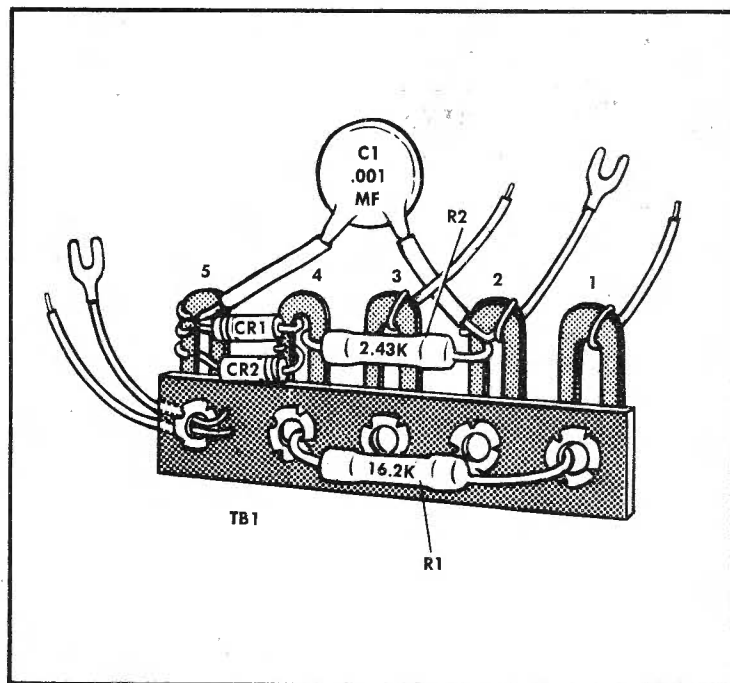
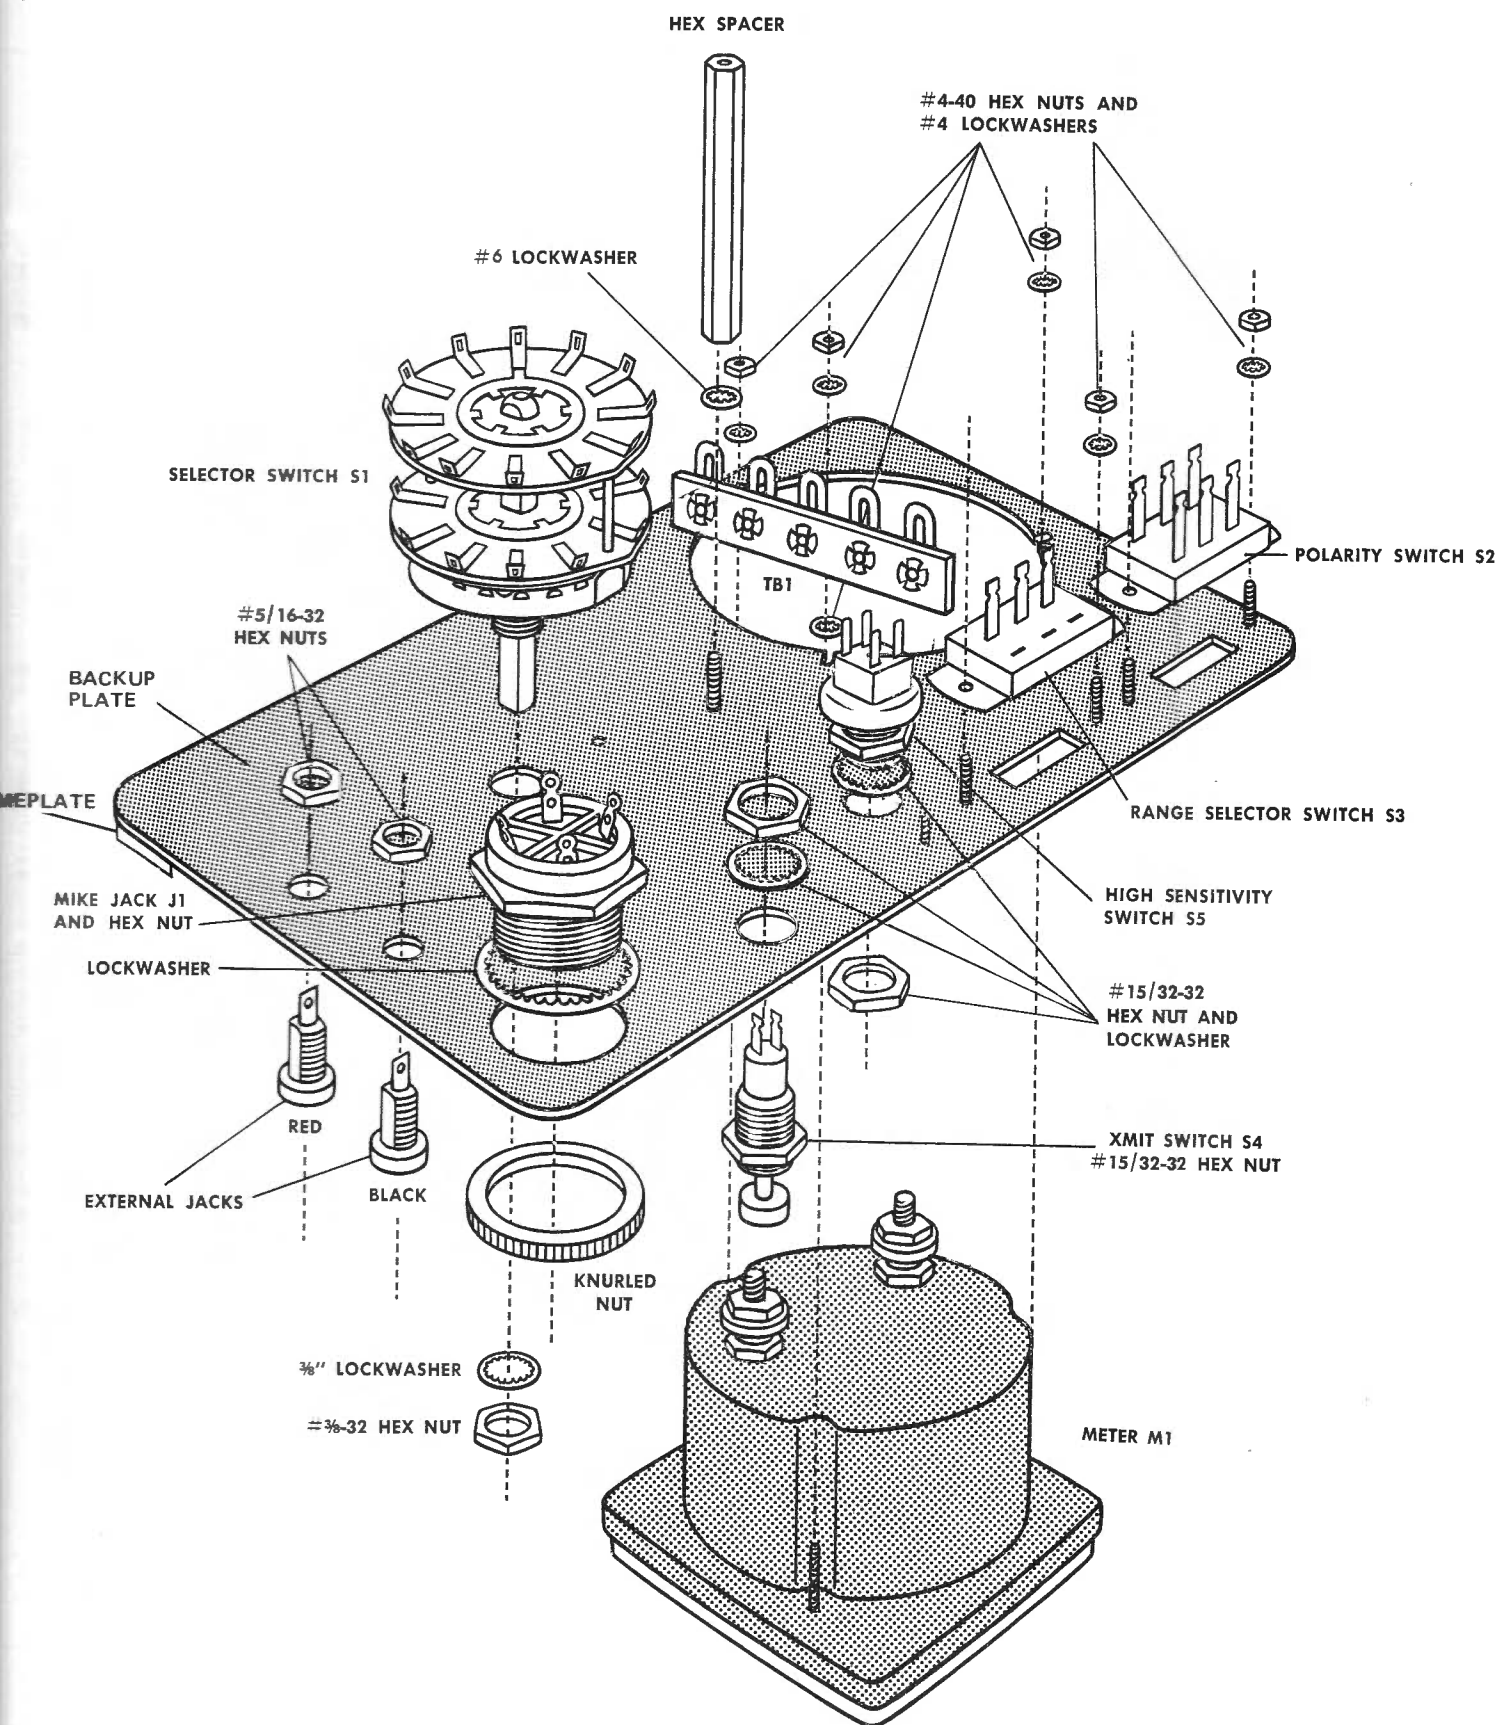

Figure 1 - Assembly of TB1
Figure 2 - Front Panel Assembly
Assembly of TB1 (see Figure 1)
#### Front Panel Assembly (See Figure 2)
- ☐ Screw the 2-inch hex spacer on the screw post, using a #6 lock-washer (See Figure 2). Bend TB1 away from the spacer so that none of the components touch the spacer.
- ☐ Sleeve one lead of 390-ohm resistor R5 (orange-white-brown-gold bands). Connect unsleeved lead of R5 to terminal 1 (S) of calibration potentiometer R6 and connect the sleeved lead of R5 to the top terminal of section 1 (S) on High Sensitivity switch S5.
- ☐ Connect a 1/2-inch piece of bare hook-up wire from terminal 2(S) to terminal 3(S) of potentiometer R6, and then to meter lug (S).
- ☐ Connect a 1-inch piece of bare hook-up wire from the bottom terminal of section 1 (S) on High Sensitivity switch S5 to terminal 1 (S) of TB1.
- ☐ Connect a 3-inch piece of insulated hook-up wire from the top terminal of section 2 (S) on High Sensitivity switch S5 to terminal 11 (S) on section B of Test Selector switch S1.
- ☐ Connect the 301K-ohm resistor R7 from the bottom terminal of section 2 (S) on High Sensitivity switch S5 to terminal 7 (S) on section B of Test Selector switch S1.
- ☐ Check the test set carefully and remove any loose bits of solder or wire clippings. Then check the assembled test set against Figures 1 through 5 for any mistakes.